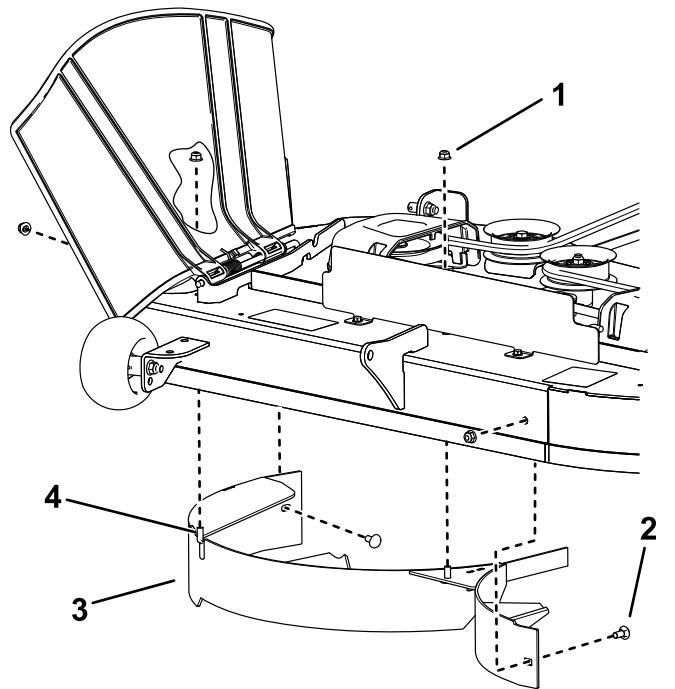

Figure 12
4. Remove the 2 locknuts (5/16 inch) from the welded posts of the baffle (Figure 12).
1. Locknut—5/16 inch (4)
2. Carriage bolt—5/16 x 3/4 inch (2)
4. Welded post (2)
5. Remove the 2 carriage bolts and 2 locknuts securing the baffle to the deck and remove the baffle (Figure 12)
- Locate the 2 bolts in loose parts and use the existing locknuts to install these fasteners into the holes used for the welded posts (Figure 12) to prevent flying debris.